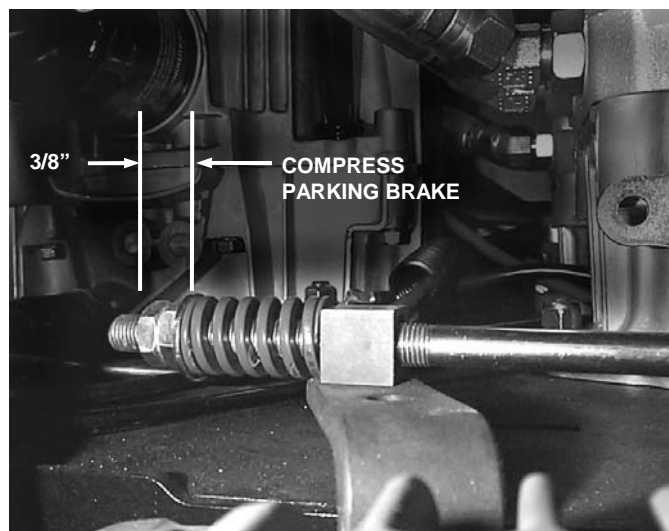

FIGURE 5.8
The parking brake can be adjusted by rotating hex nut clockwise to increase brake tension. If this adjustment does not result in proper braking action contact your authorized SNAPPER dealer for corrective action. See Figure 5.8.
4. Tighten hex nut to compress brake spring 3/8". Tighten jam nut to secure the hex nut in place. Disengage and engage parking brake and recheck brake spring compression measurement. Repeat previous steps for other wheel. See Figure 5.8.